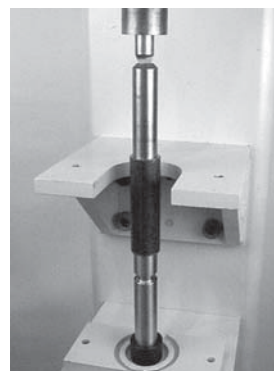

Figure 40
5. Using an arbor press or similar device, press bearing onto pulley shaft (Figure 40).